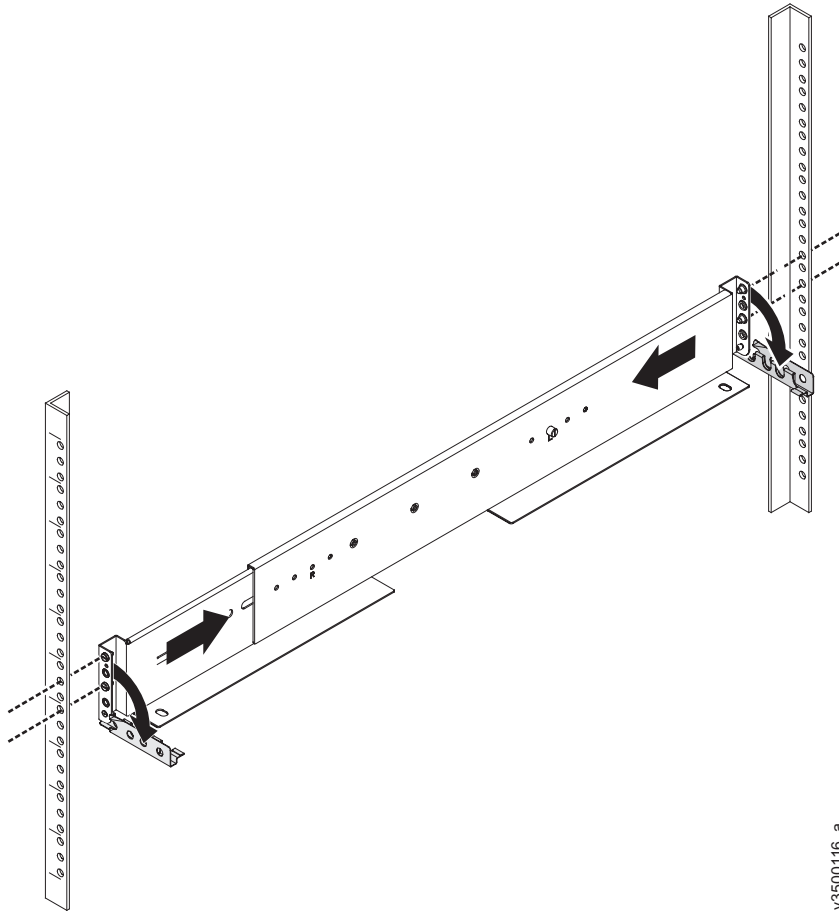

Figure 112. Compressing rail for removal from rack
11. Compress the rail against its spring to shorten it, then remove it from inside the rack (Figure 112 on page 365).
12. Repeat steps 9 on page 363 to Figure 112 on the right support rail.